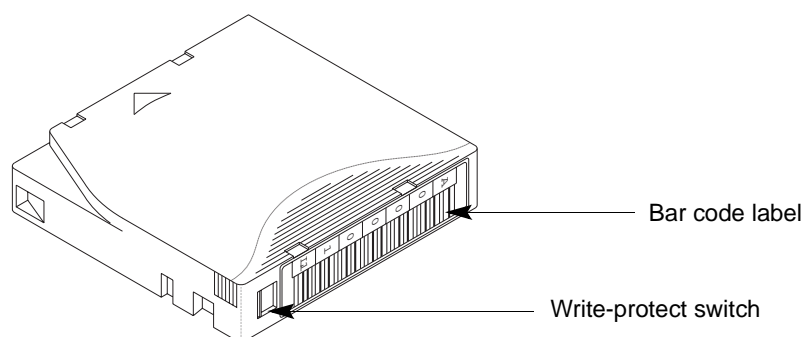

Figure 2-3 Bar code label placement and write-protect switch location
1. If desired, you can affix bar code labels to the cartridges. Position each label in the indented area on the cartridge, as shown in Figure 2-3.